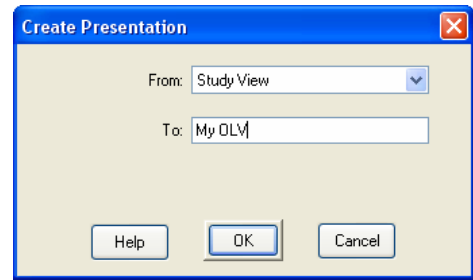

Fig. 6
- (1.1) Click the "New Presentation" Icon  from the "Presentations" toolbar. The "Create Presentation" dialog will be displayed as shown in Fig. 6